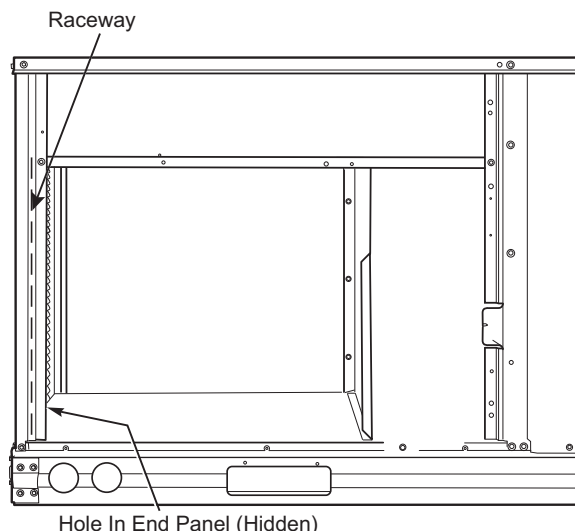

Fig. 28 — Field Control Wiring Raceway
The 50FE unit requires an external temperature control device. This device can be a thermostat (field-supplied) or a SystemVu™ controller (available as factory-installed option for use on a Carrier Comfort Network® or as a stand alone control). All field added wire must comply with UL and local NEC standards. See Unit without Thru-Base Connection Kit on page 19 and use routing path shown in Fig. 28 to help with compliance as needed.
Pass the thermostat control wires through the hole provided in the corner post; then feed the wires through the raceway built into the corner post to the control box. Pull the wires over to the terminal strip on the upper-left corner of the Unit Control Board. See Fig. 28.
2. Feed wires through the raceway built into the corner post (refer to Fig. 28) to the 24-v barrier located on the left side of the control box. The raceway provides the UL-required clearance between high-voltage and low-voltage wiring.